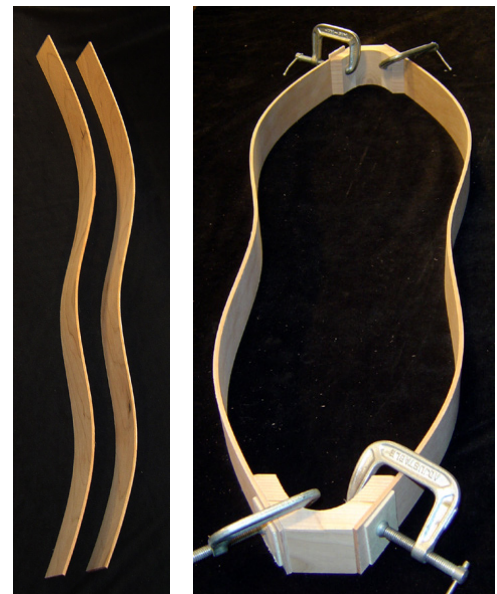

FIG. 1B
**IMPORTANT:** While making the hourglass shape, there is one mistake you want to avoid. The side pieces are bent to shape already to form a large bout at one end and a smaller bout at the other. Make sure the two sides are oriented the same way when you glue them to the end blocks. (fig. 1b)